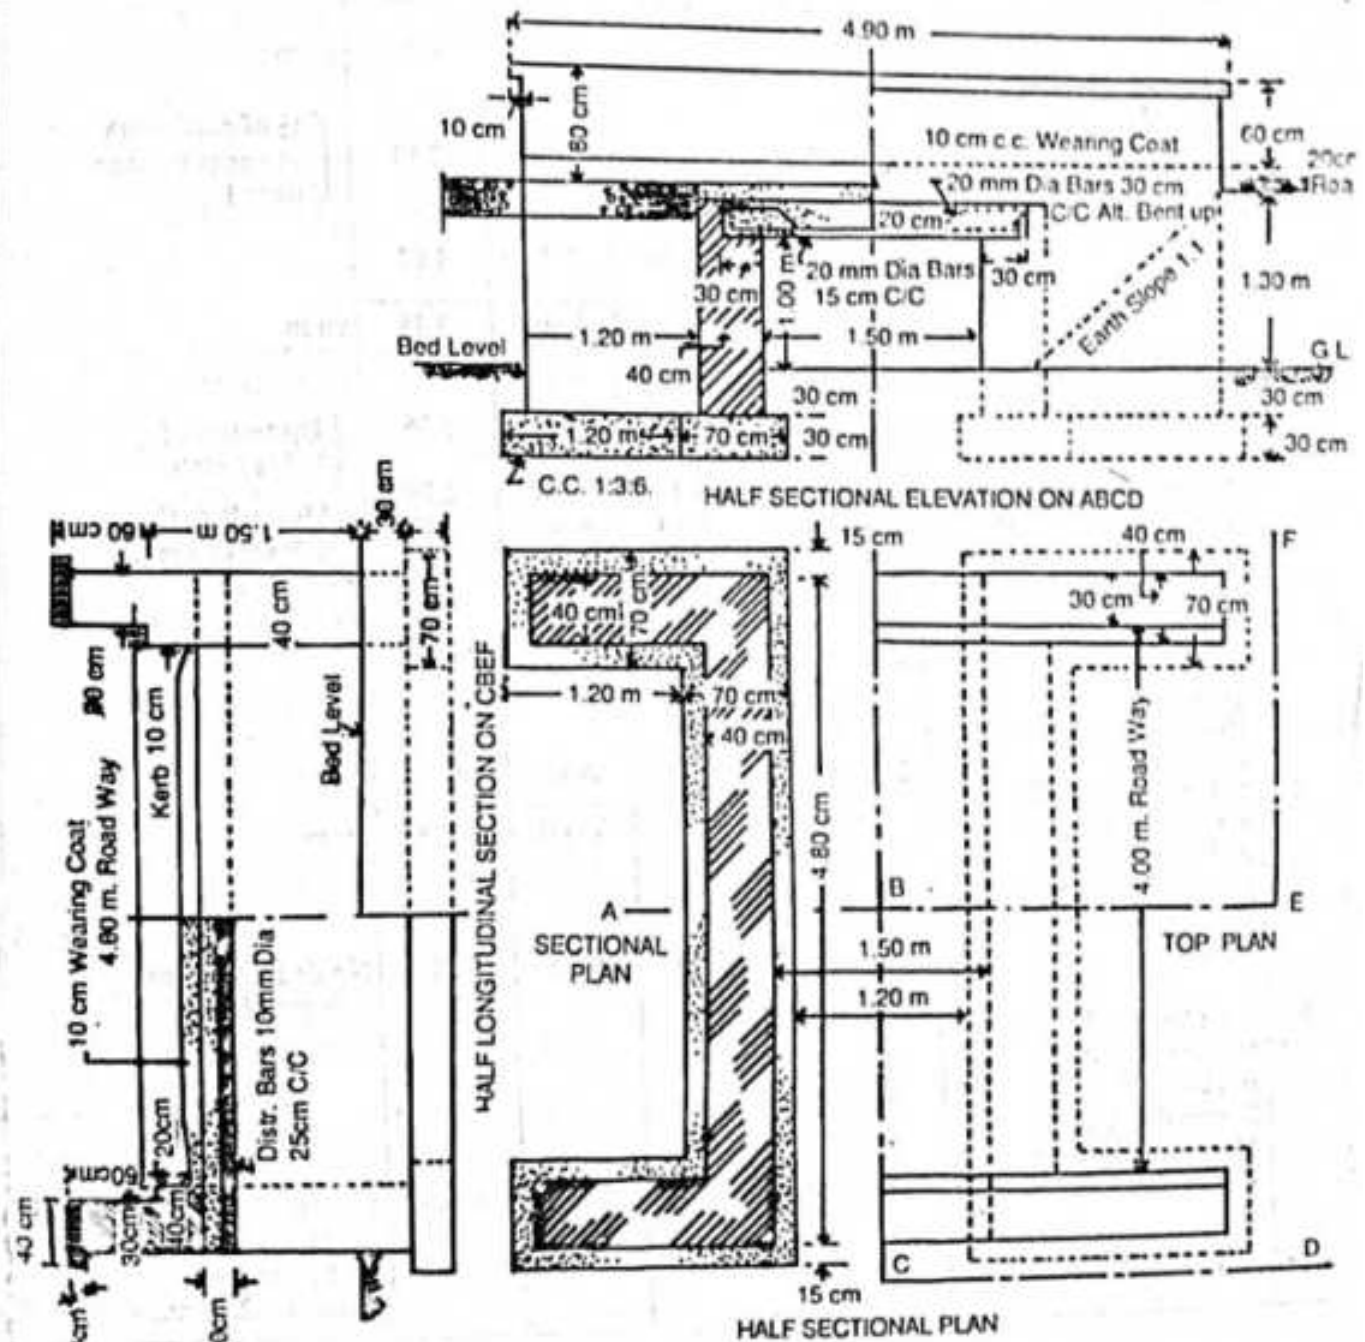

Fig. 8-5
**Example 1.** -- Prepare a detailed estimate of a slab culvert of 1.50 metre span and 4.00 metre roadway from the given drawing (Fig. 8.5). The general specifications are as follows :